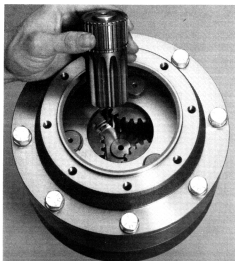

Fig. 12
26. Turn unit over and support, shaft down. Lubricate intermediate gear and small planet carrier assembly, place gear in mesh with large planet gears (40). (Fig. 12)